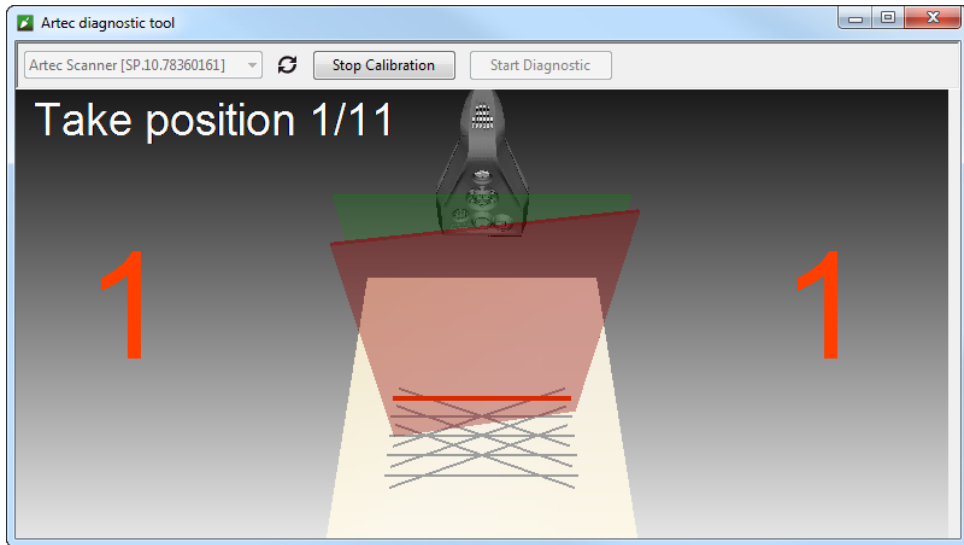

Figure 8.9: Moving calibration rig to the No.1 position
7. Place the rig to its initial position in such a way that the front edge of the rig base coincides with No.1 color line on the pattern. While matching, also watch *3D View* window for a red plane (current position) and a green plane (target position) (figure 8.9). Once the red plane has coincided with the green one, stop moving the rig and wait until the plane is captured.